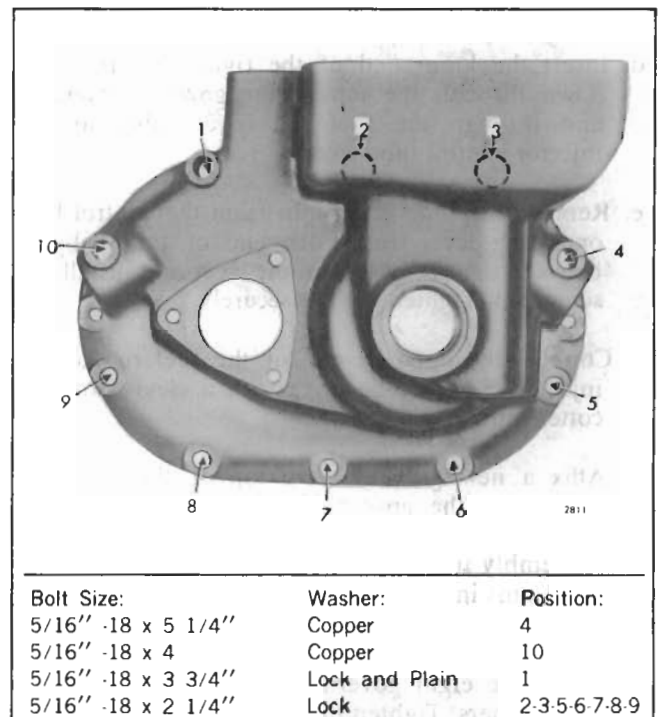

Fig. 21 - Location and Size of Governor Retaining Bolts
6. Refer to Fig. 21 for the locations, and install the bolts, lock washers, copper washers and plain washer securing the governor to the blower. Tighten the bolts to 13-17 lb-ft (18-23 Nm) torque.
2. Refer to Fig. 21 for bolt location and install the bolts, lock washers, plain washer and copper washers which secure the governor to the blower. Tighten the bolts to 13-17 lb-ft (18-23 Nm) torque.